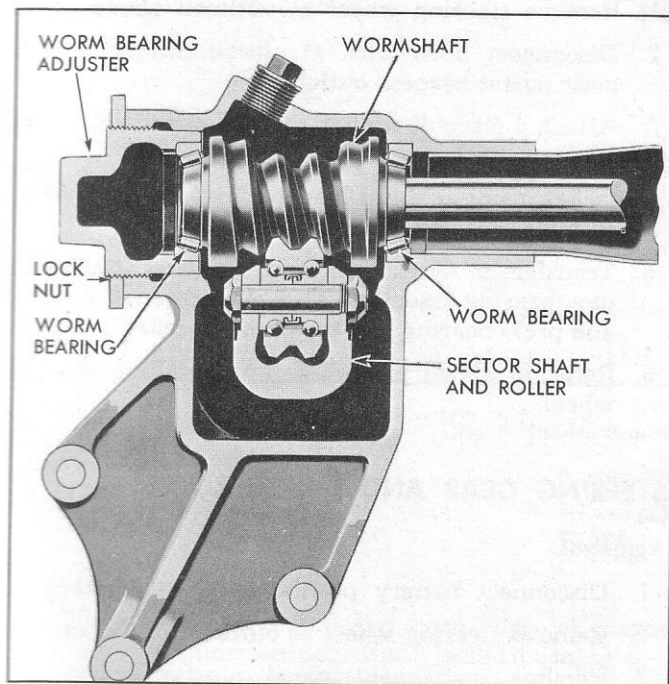

Fig. 4—Corvette Steering Gear
The Corvette steering gear (fig. 4) is of the sector-roller type. The principal parts of the unit are the steering worm sector roller and sector shaft. The worm, which is hour glass shaped, is pressed onto the steering mainshaft, and is supported by bearings at each end of the steering gear housing. Like other steering gears the front worm bearing cap is adjustable to provide wormshaft preload.
4. To adjust the worm bearing, loosen lock nut (fig. 4) and turn worm bearing adjusting cup until there is no perceptible end play in worm. Check pull at wheel rim as outlined above, readjusting if necessary, to obtain proper pull. Tighten lock nut and recheck pull as it must lie between the limits specified after the lock nut is tightened. If the gear feels "lumpy" after adjustment of worm bearings, there is probably damage in the bearings due to severe impact or to improper adjustment and the assembly must be disassembled for replacement of damaged parts. Instructions for disassembly follow under the heading "Service Operations."
3. Loosen the lock nut (fig. 4) on the worm bearing adjuster cup and turn the adjuster cup counterclockwise a few turns.